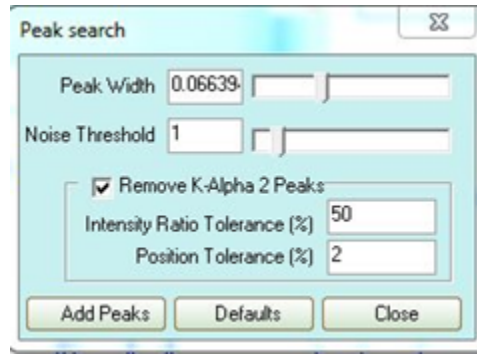

Figure 5. 'Peak Search' Window
2. A 'Peak Search' window will appear (Figure 5). Here adjust the peak width, noise threshold, and K-Alpha 2 removal. Each vertical line is a detected peak and the scan updates as the parameters change, increasing or decreasing the amount of detected peaks. When satisfied with the peak selection select 'Add Peaks'.